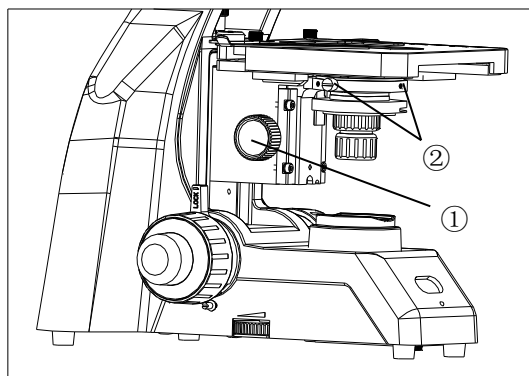

Fig. 19
3.2.4 Condenser Adjustment (Fig.19)